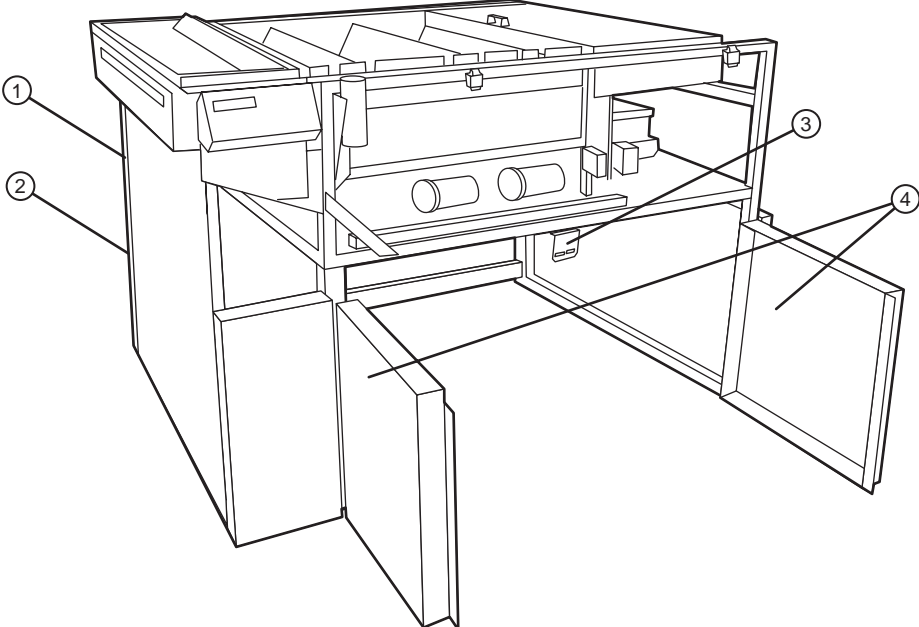

Figure 1-20 Side covers, striker plate, doors for right side.
- ①—Front left side cover. ②—Front right side cover.
③—Lower rear panel. ④—Left side panel (bottom).
5. Attach the top side panel to the left side of the frame. Refer to Figure 1-20.
6. Attach the striker plate to the right side of the frame. Refer to Figure 1-20.
7. Attach the left lower door (hinged) to the right side of the frame. Refer to Figure 1-20.
8. Attach the right lower door (hinged) to the right side of the frame. Refer to Figure 1-20.